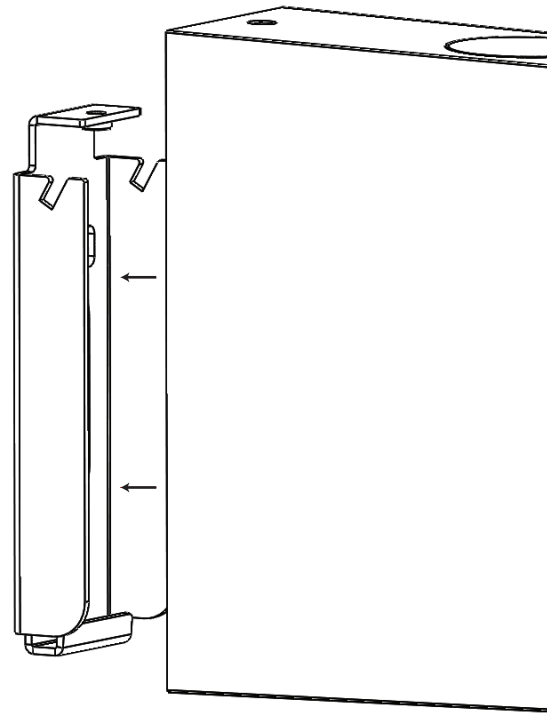

Fig. 4
4. Push fixture on to mounting bracket - see Fig.4.